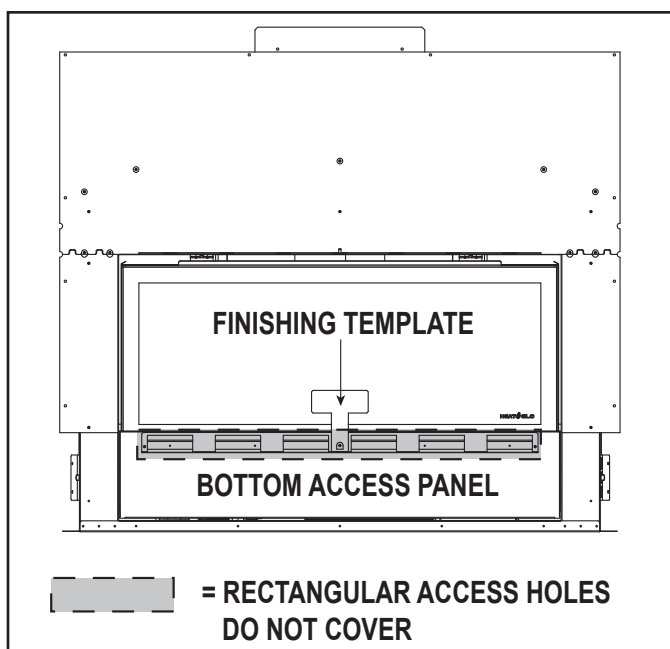

Figure 10.4 Non-Combustible Finish Material Diagram for 0-1 Inch Thick Overlap Fit Method
1. The non-combustible finish material can be installed up to the fireplace opening on the top and sides. Do not cover rectangular access holes. See Figure 10.4 and 10.5.